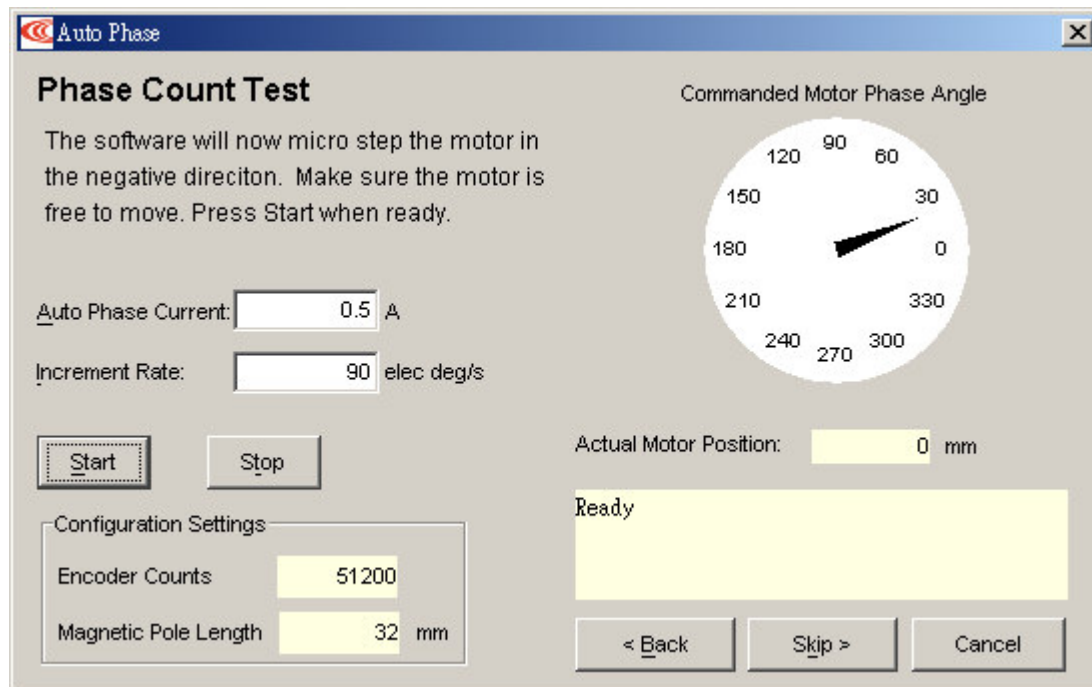
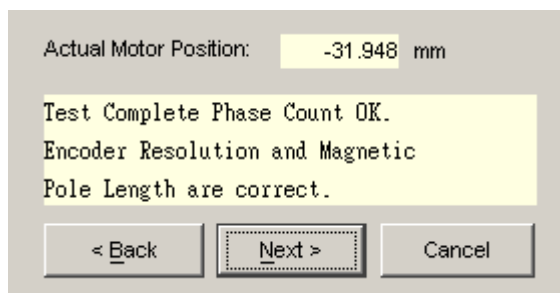

Fig. 21 Phase Count Test
Fig. 22 Phase Count Test Successful Page
- e. Press on next and Fig. 21 will appear. Then press start to activate, the driver will start sending current to motor coils, and move one pole pair pitch in negative direction. Make sure the moved distance is 32mm. If successful, the lower right corner message box will display message shown in Fig. 22. (This procedure can be skipped by pressing on Skip button.)